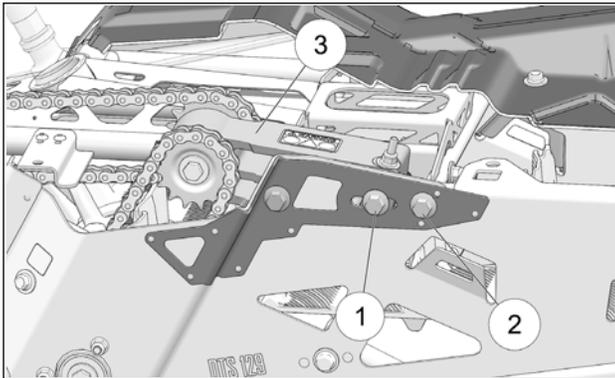

Figure 7
- Loosen assembly bolts (1) and (2) on left side panel to allow the Chain Tensioner (3) to pivot on its axis. See Figure 7.